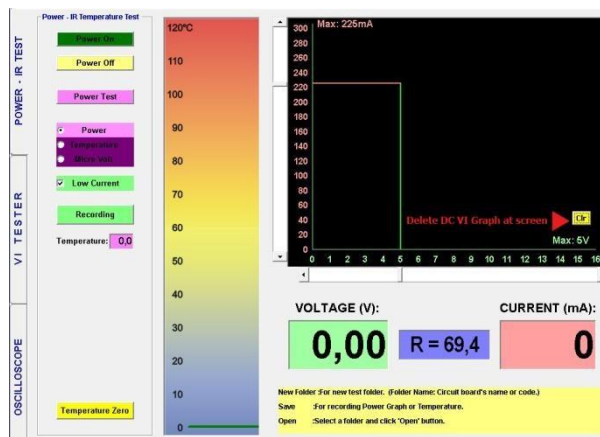

Figure 20: Deleting the DC VI Graph
5. The "Clr" Button is clicked to delete the "DC Voltage - Current Graph" from the screen. (Figure 20)